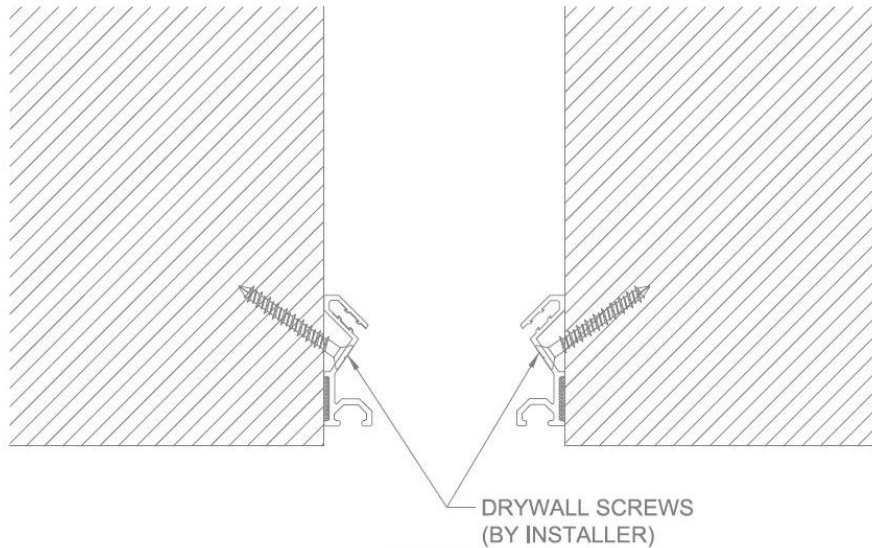

FIGURE 2
2. Attach the aluminum extrusions with an appropriate length drywall screw (by installer), making sure it penetrates the substrate. When attaching to a concrete wall, drill a hole into concrete using a $\text{Ø}5/32$ " masonry bit and attach using $\text{Ø}3/16$ " Tapcon anchors (by installer). **See Figure 2**